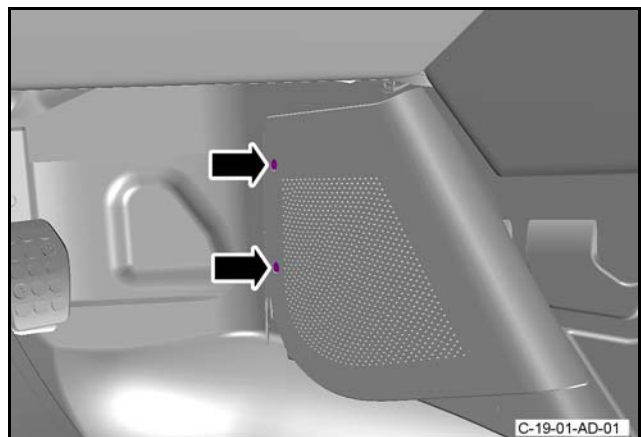

Figure 21
42. Install and tighten the two screws that attach the grille to the footwell speaker (refer to Figure 21).